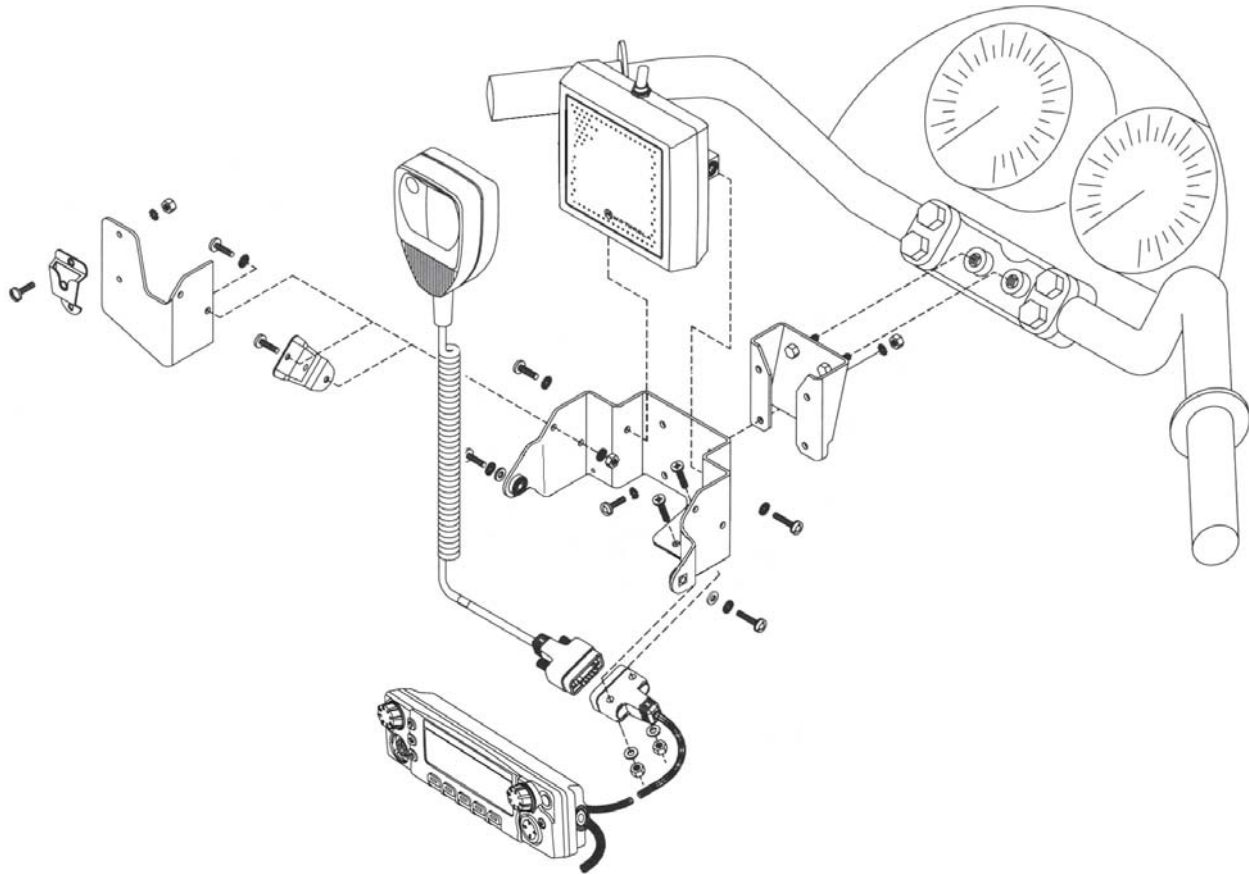

Figure 5-4. Handlebar Installation with Speaker and Control Head Mounted Together
The control head mounting location and configuration is determined largely by the make and model of motorcycle. Two different mounting configurations are described below. One involves mounting the speaker and control head together as a unit using the combination speaker/control-head bracket (shown in Figure 5-4) supplied by Motorola Solutions. Alternately, the control head may be mounted by itself using a smaller control-head bracket supplied by Motorola Solutions. In this case, the speaker is mounted elsewhere. This section outlines installation procedures for each configuration mentioned above. The customer (or installer) is in the best position to determine the most appropriate mounting configuration for the control head and speaker based on the particular motorcycle on which the equipment is to be mounted.
Figure 5-4 illustrates the combination speaker/control head bracket. This combination bracket is used only when the control head and speaker are to be mounted as a unit. Also illustrated in Figure 5-4 is a handlebar-mounting bracket which may be required if the combination speaker/control-head bracket cannot be easily mounted to the motorcycle. In this case the handlebar-mounting bracket is mounted to the motorcycle, and the combination bracket is then mounted to the handlebar-mounting bracket.
Install the hang-up clip either on the supplied microphone extension bracket or on the side of the speaker/control head bracket. Both methods are shown in Figure 5-4. Determine the mounting location and install as described in the following paragraphs.
1. Attach the bracket to the speaker/control-head bracket using two machine screws, four lock washers, and two nuts as shown in Figure 5-4.
3. Fasten the hang-up clip to the extension bracket using two machine screws, lock washers, and nuts as shown in Figure 5-4.
Attach the hang-up clip to the left side of the speaker/control-head bracket using two machine screws, lock washers, and nuts as shown in Figure 5-4. Torque nuts to 20 in-lbs. torque.